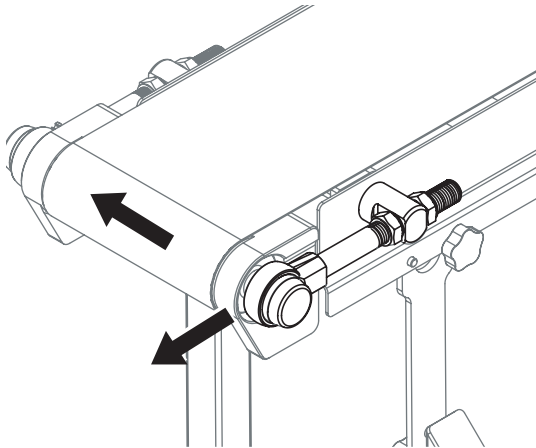

Figure 53
- b. Tighten the nut to increase the length of the idler tail shaft and move the belt away from that side of the conveyor (**Figure 53**).